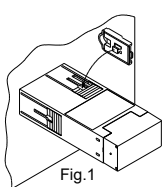

Fig.1
3. Insert the mounting bracket into the mounting groove of the instrument. (Fig.1)